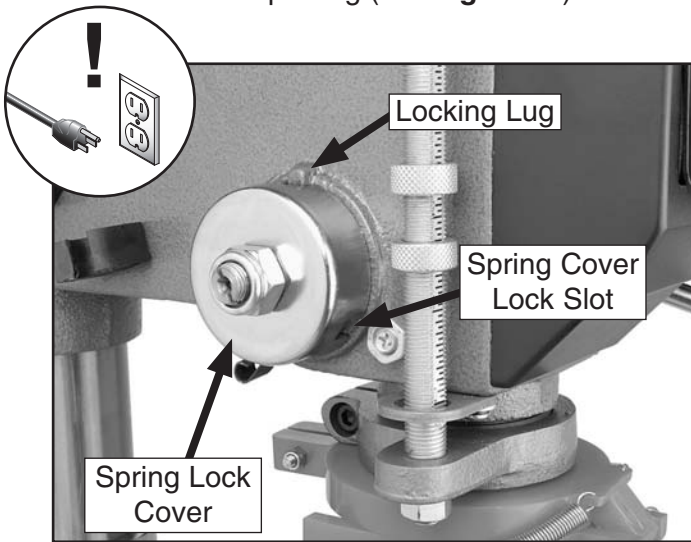

Figure 41. Feed shaft return spring assembly.
2. Wipe off any oil on the spring lock cover so it does not slip in your fingers when you hold the cover from spinning (see **Figure 41**).